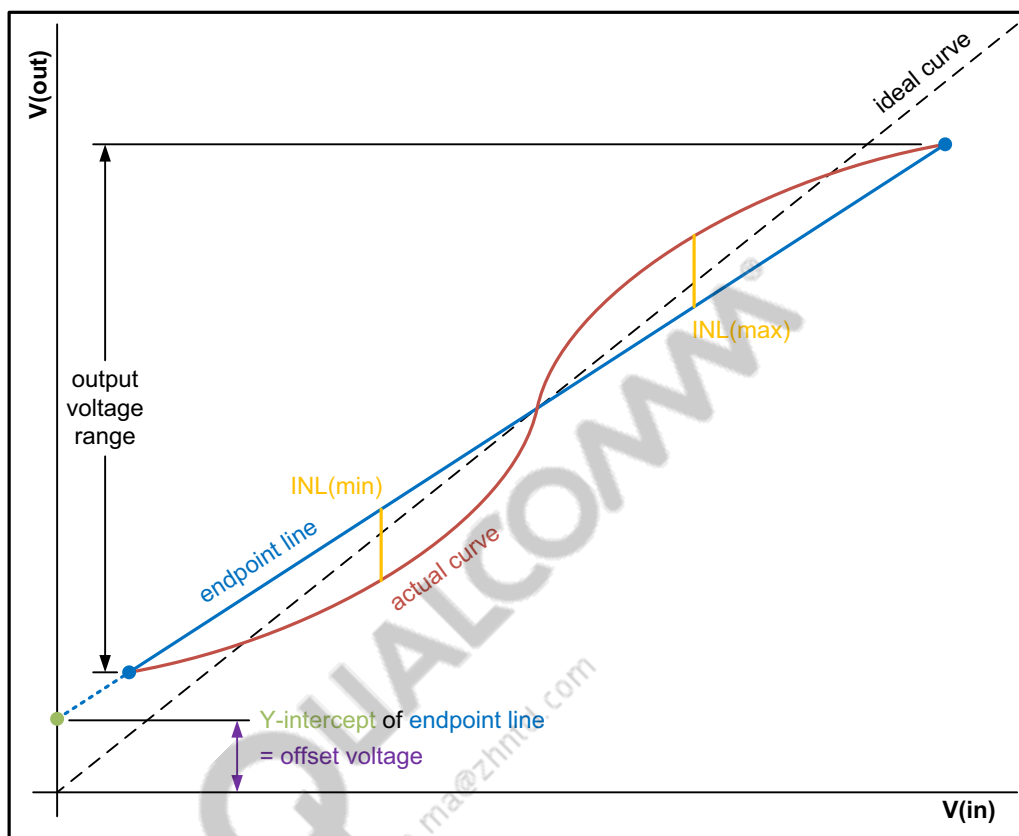

Figure 3-7 Multiplexer offset and gain errors
2. Multiplexer offset error, gain error, and INL are measured as shown in Figure 3-7. Supporting comments: